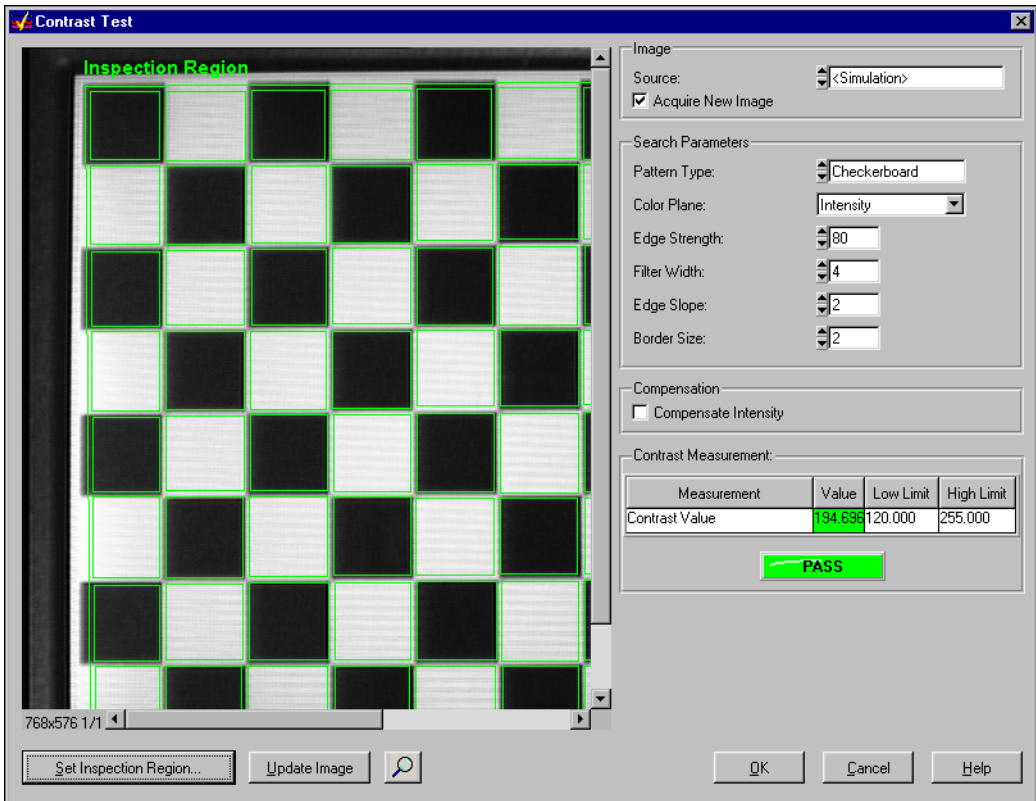

Figure 2-9. Contrast Step Configuration Panel
1. Right-click the **Contrast** step and choose **Configure Contrast** from the context menu. A configuration interface appears, as shown in Figure 2-9.